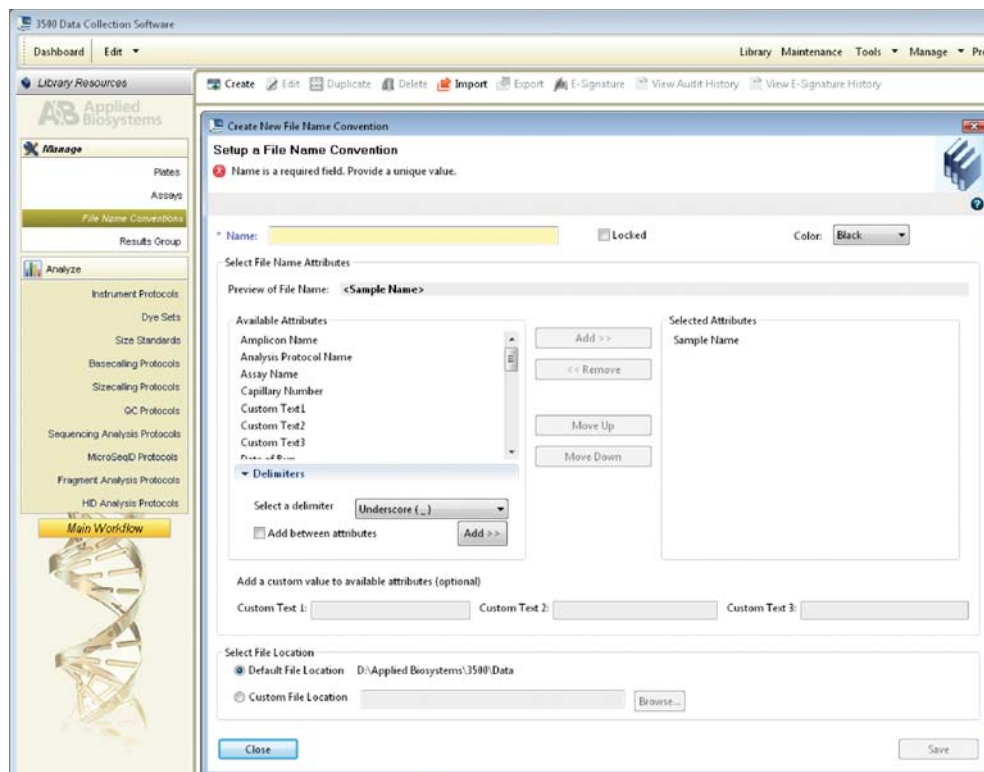

Figure 7. The Create New File Name Convention window.
- e. To create a new File Name Convention (Figure 7), navigate to the Library. Select “File Name Conventions”, then select “Create”. Alternatively, a previously created File Name Convention may be used.